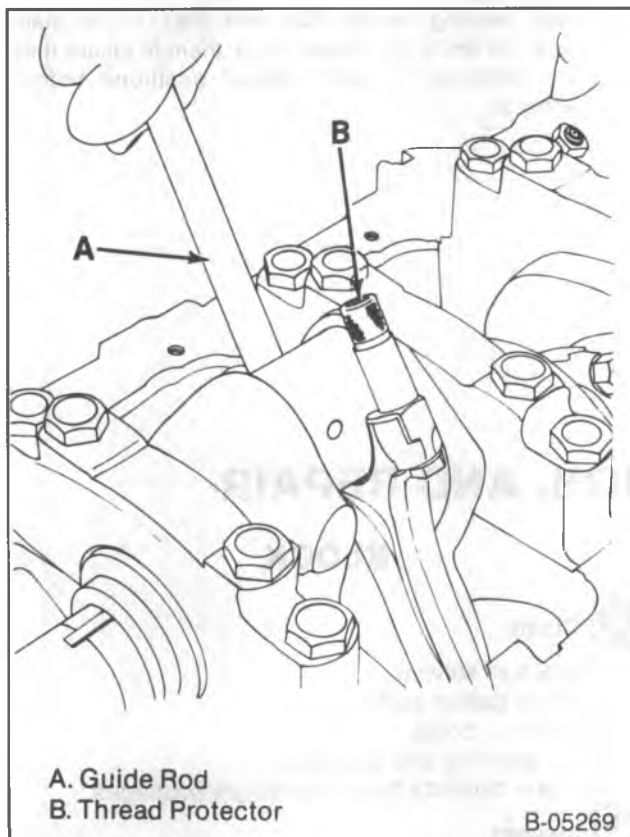

Figure 21—Removing the Piston and Connecting Rod
- Push on the guide rod (item A, figure 21) to push the piston and connecting rod out.